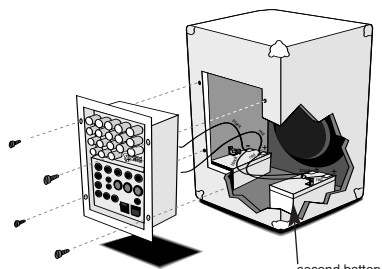

FIG 1 Cutaway view
1. To add the second battery, remove the 4 screws from the StageMates™ rear chassis and carefully remove the chassis from the cabinet. FIG 1
- A) To replace your battery, remove the 4 screws from the StageMate’s™ rear chassis and carefully remove the chassis from the cabinet. FIG 1